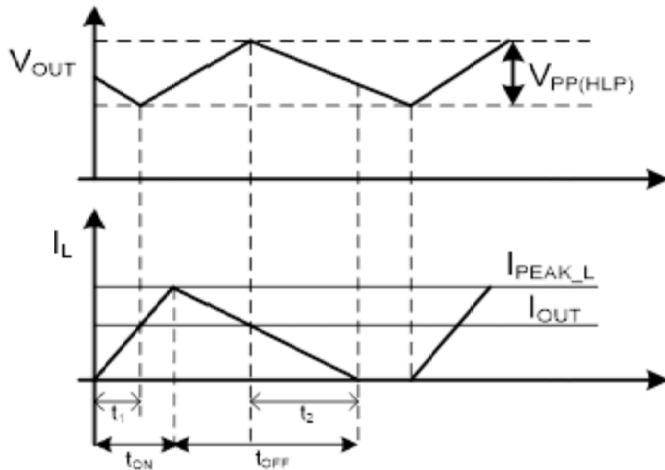

Figure 5: Output Voltage Ripple in LP Mode
Figure 5 shows the normalized input capacitor RMS current versus duty cycle. To use this graph, simply find the operational duty cycle (D) on the x-axis and determine the input/output current multiplier on the y-axis. For example, at a 20% duty cycle, the input/output current multiplier is 0.40. Therefore, if the regulator is delivering 1.0 A of steady-state load current, the input capacitor(s) must support 0.40×1.0 A or 0.4 A RMS.